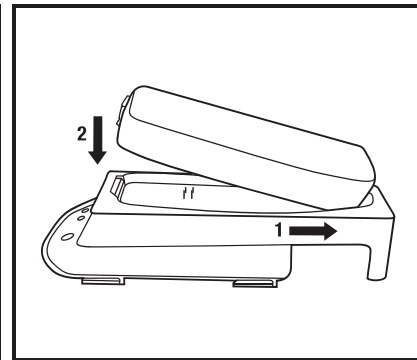

Fig. 2
4. Battery charging: Ensure the gold electrical contacts on the battery and charger are clean and free of debris. Insert the battery pack into the 3M™ Battery Charger Cradle TR-640 by sliding the back end of the battery pack in first. Set front end down and click into place (Fig. 2), charging will begin. Refer to Fig. 4 and Table 1 in the “Specifications” section of these *User Instructions* for a list of charger LED displays and meanings, and battery charge times.